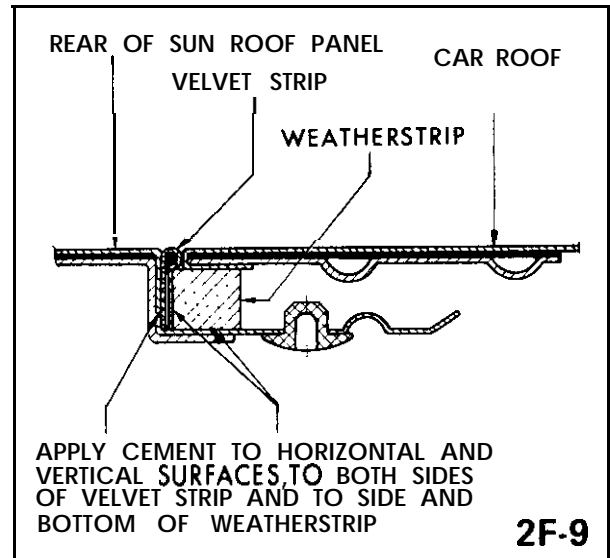

Figure 2F-9 Installing Velvet Strip and Weatherstrip on Rear of Sun Roof Panel
1. Using **nitrile** vinyl trim adhesive (3M Vinyl Trim Adhesive Permalastic Vinyl Trim Adhesive or equivalent) apply sparingly to vertical and horizontal contact areas at rear of sun roof panel (see Figure 2F-9) and also to side of velvet strip which will touch sun roof panel.